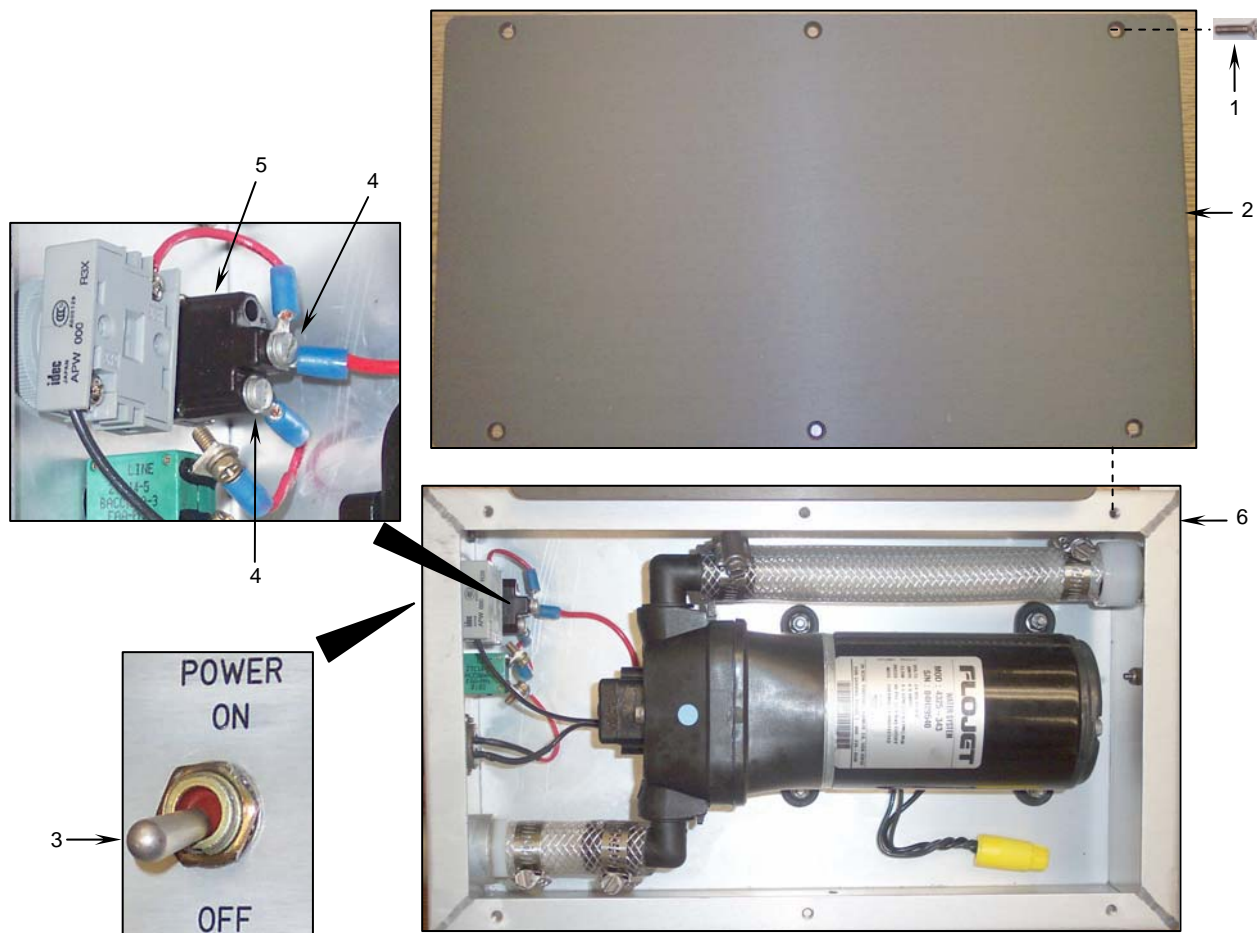

Figure 3. Testing the Sink Fill Pump Assembly Power Switch.
- a. Remove the six flat head machine screws (**Figure 3, Item 1**) from the fill pump cover (**Figure 3, Item 2**).
- b. Remove the cover (**Figure 3, Item 2**).
- c. With the power switch (**Figure 3, Item 3**) ON, place the multimeter test probes on the two terminals (**Figure 3, Item 4**) at the back of the power switch (**Figure 3, Item 5**). The multimeter should read zero.
- d. With the power switch (**Figure 3, Item 3**) OFF, place the multimeter test probes on the two terminals (**Figure 3, Item 4**) at the back of the power switch (**Figure 3, Item 5**). The multimeter should read infinite resistance.
- a. Apply sealing compound to the six flat head machine screws (**Figure 3, Item 1**) and secure the fill pump cover (**Figure 3, Item 2**) to the sink fill pump assembly enclosure (**Figure 3, Item 6**) using the six screws (**Figure 3, Item 1**).